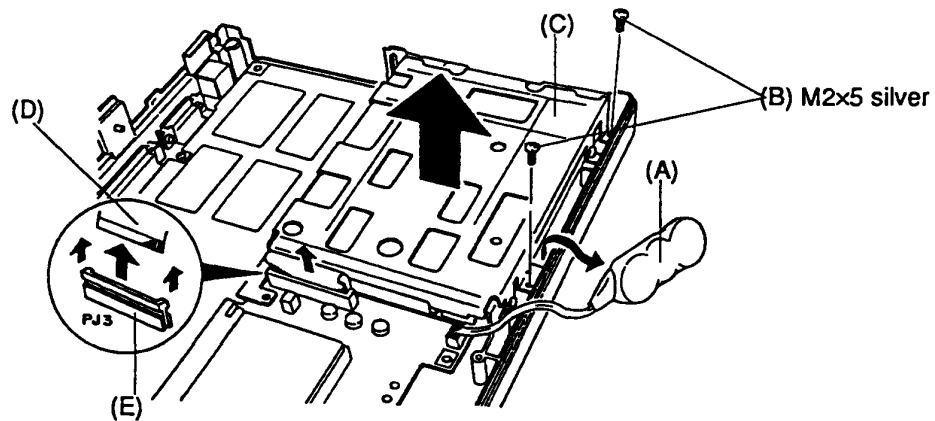

Figure 4-21 Removing the floppy disk drive
3. Disconnect the Real Time Clock (RTC) battery (A) from PJ1 and remove it from the computer.
4. Remove the two (M2x5 silver) screws (B) securing the floppy disk drive (C) to the base assembly (Figure 4-21).
5. Disconnect the FDD cable (D) from pressure plate connector PJ3 (E) on the system board (Figure 4-21).
3. Place the FDD and its bracket in the T4400SX. Connect the FDD cable to pressure plate connector PJ3 on the system board (Figure 4-21).